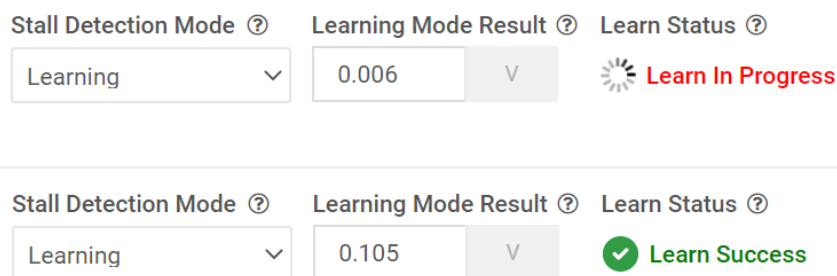

Figure 3-11. Learning mode
- **Learning Mode:** This mode is used for stall threshold learning or relearning. Learning mode is selected while the motor is running in the torque count mode. After switching to learning mode the 'Learn Status' shows 'Learn In Progress'. The motor is intentionally stalled to initiate learning. Learning completion is indicated by 'Learn Success' as well as the 'Stall Report Status' LED widget turns green from red. The intentional stall is released. The result is displayed under the 'Learning Mode Result', see Figure 3-11. Learning result analog voltage is available on the TRQ_CNT/STL_TH pin of the driver in learning mode. Switch back to torque count mode for detecting a motor stall. The 'Fault Status' and 'Stall Report Status' LED widgets may turn red indicating a stall fault immediately after switching to the torque count mode. Clicking on 'Clear' button will issue an nSLEEP reset pulse to the driver to clear a pending stall fault. The LED widgets will turn green after a clear. The driver is now ready for motor stall detection in torque count mode. The torque count and learning result voltages are displayed in the GUI with limited precision for evaluation purpose. If an accurate measurement is desired, a precision calibrated multimeter can be connected between TRQ_CNT/STL_TH and GND pins of the J3 header in the EVM.